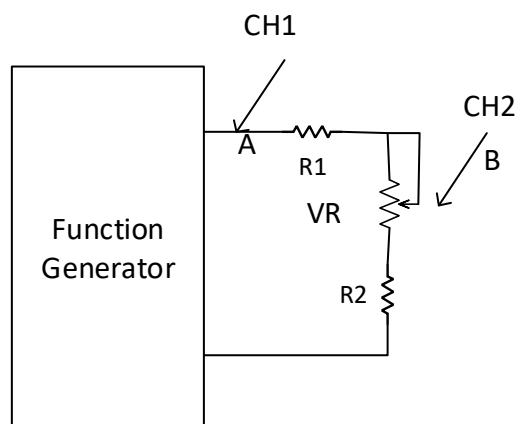

Figure 3-2: AC serial circuit with variable resistor
- b. Repeat a) with figure 3-2